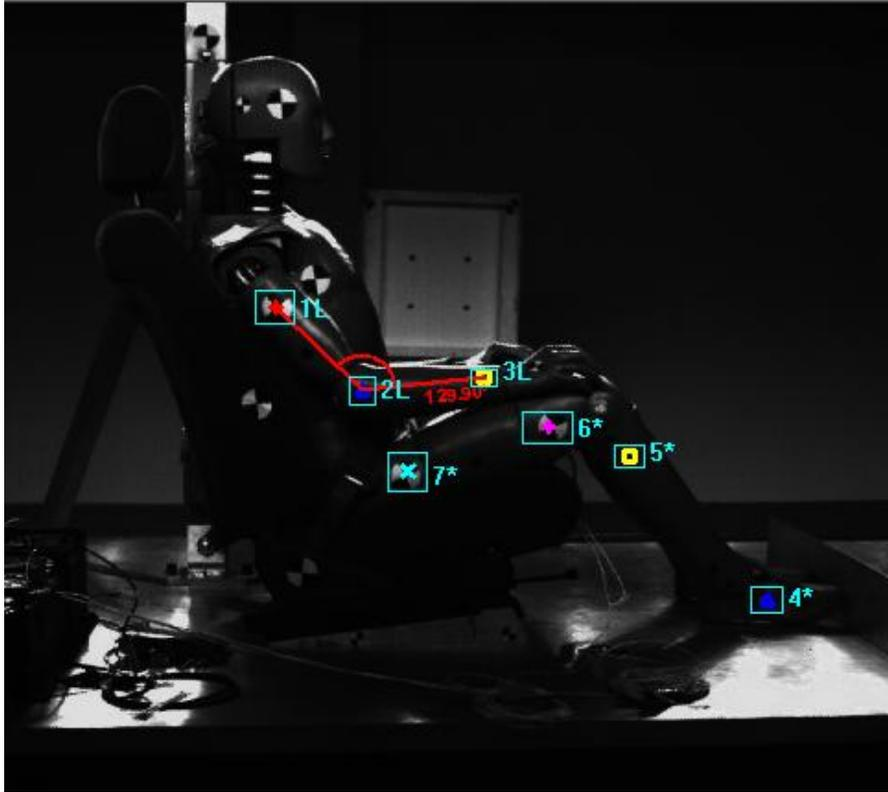

Figure 14. Leg features defined
2. Click **Add** on the Feature Tracking control panel to add four more features for the leg, using the same procedures as in Step 4 of the previous section. Add, define regions, and set regions for Features 4-7: the ankle, knee, thigh, and hip. Track the features forward, then return to the beginning of the video. Figure 14 shows the new features.